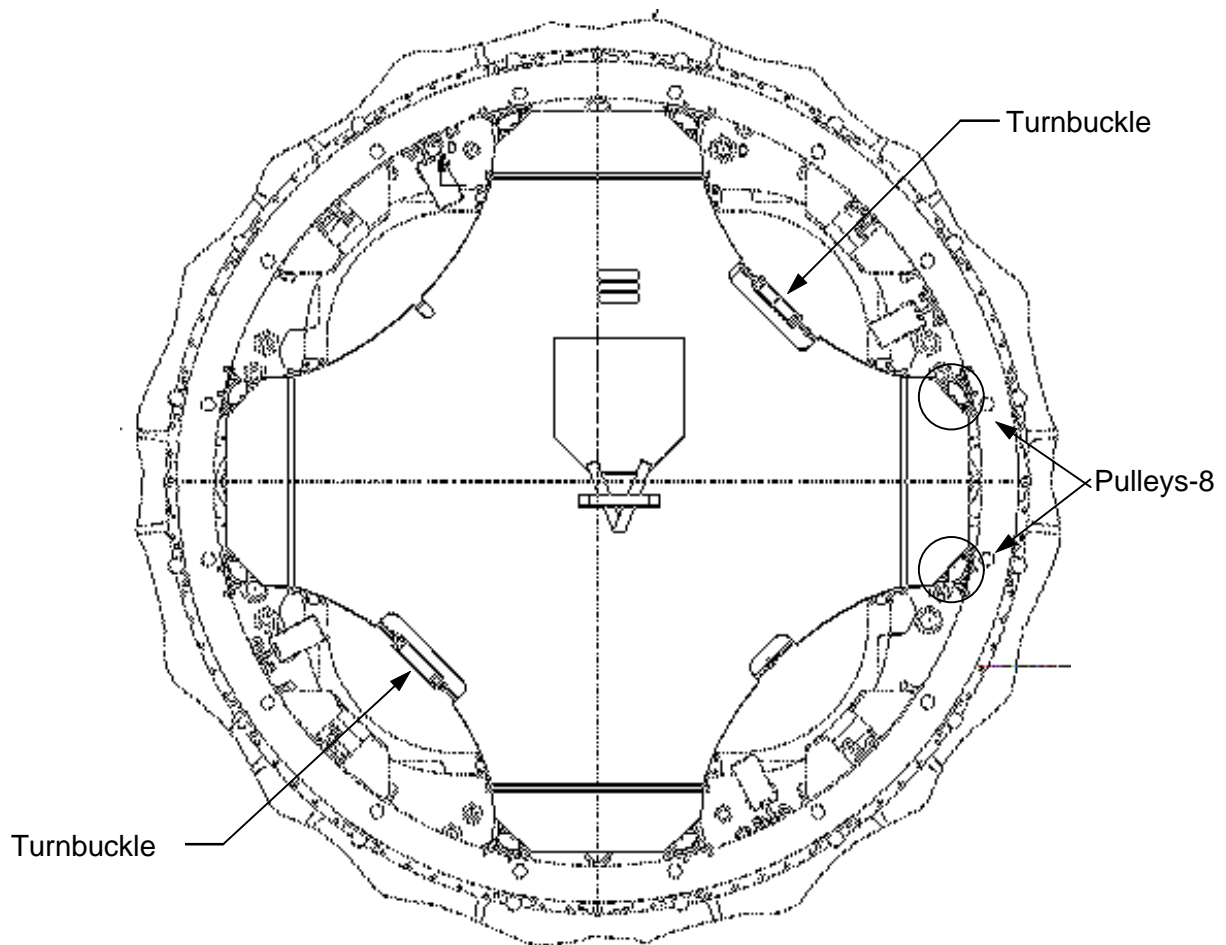

Figure 1.- CBM Center Disk Cover.
2. Unfold top flap from center towards controller. See Figure 1.